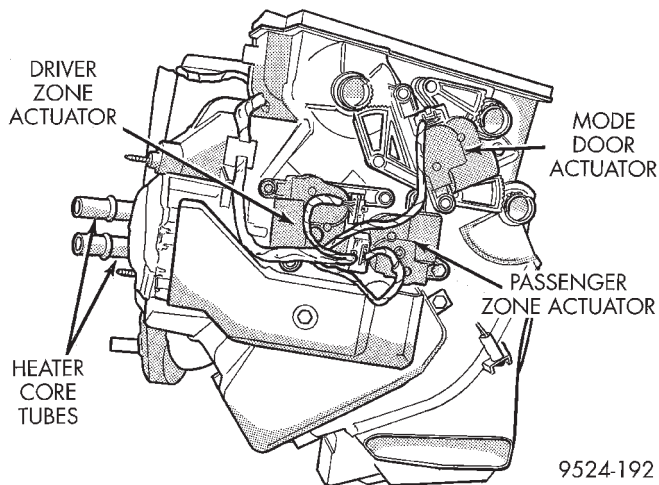

Fig. 55 Distribution Housing
(1) Place distribution housing on workbench (Fig. 55).